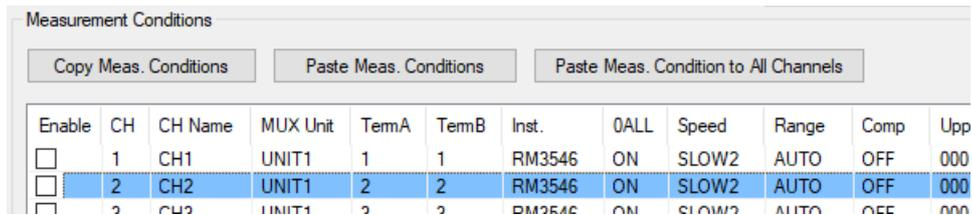

Figure 2-17
3. Select the channel to which you wish to paste the measurement conditions and click the “Paste Meas. Conditions” button. (See Figure 2-17.)